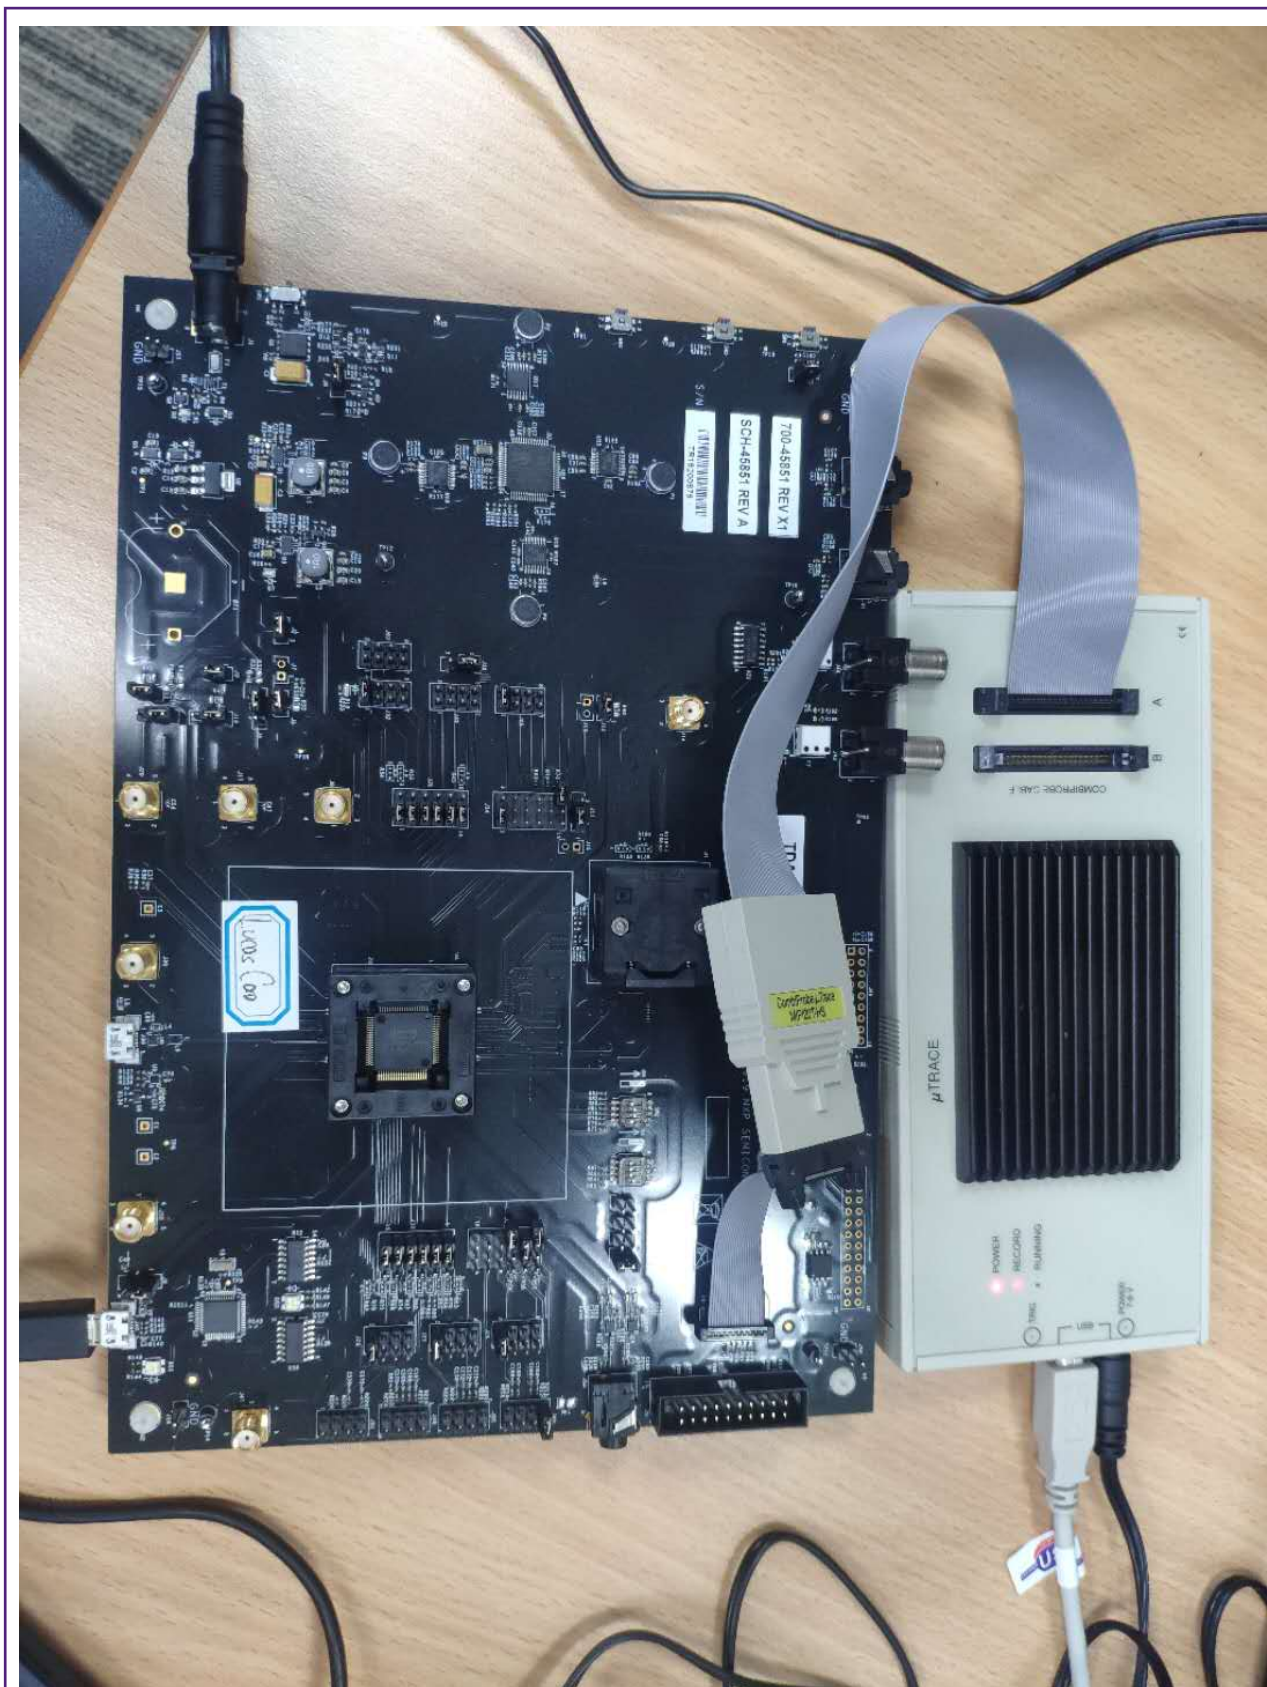

Figure 2. i.MX RT1010 validation board hardware connection
1. Taking i.MX RT1010 Validation Board (RAM) as an example, Figure 2 shows the i.MX RT1010 validation board hardware connection.